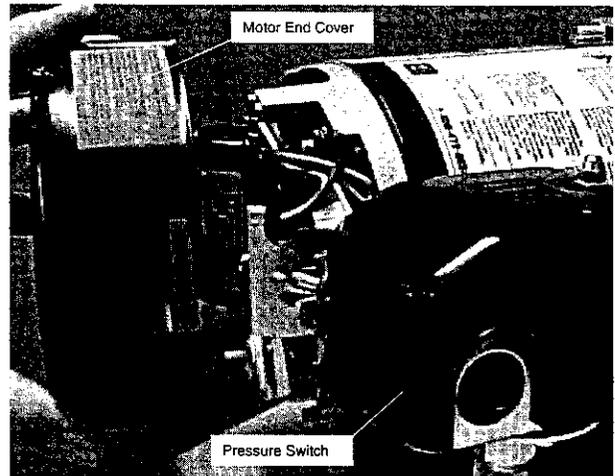

Figure 14 – Removing Motor End Cover
1. Connect the ground wire first as shown in Figure 14. The ground wire must be a solid copper wire at least as large as the power supply wires.